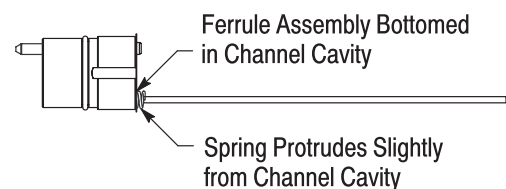

Figure 11
2. Align the end of the ferrule assembly with the appropriate channel cavity of the EB insert, and insert the ferrule assembly into the channel cavity until the O-ring is against the channel cavity. See Figure 11, Detail A. To avoid damage to the fiber, DO NOT push the fiber to install the ferrule assembly.
3. Slide the spring over the fiber until it is against the O-ring of the ferrule assembly. See Figure 11, Detail B. Using the ferrule insertion tool, push the spring until the ferrule assembly bottoms in the channel cavity (the O-ring will be inside of the cavity, and the spring will protrude slightly from the cavity). See Figure 11, Detail B.